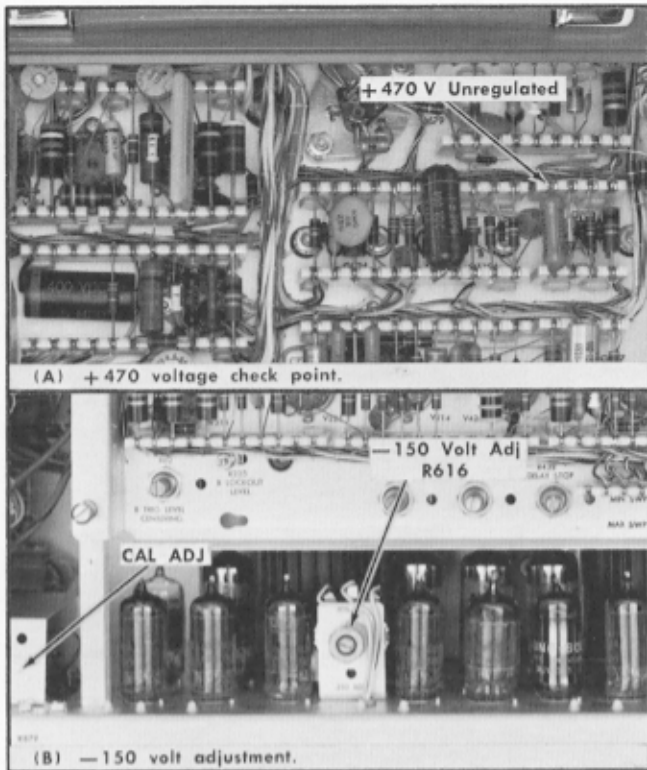

Fig. 6-5. Location of +470 volt check and -150 volt adjustment.
- Connect the DC voltmeter between the -3700 volt supply and ground (see Fig. 6-5).